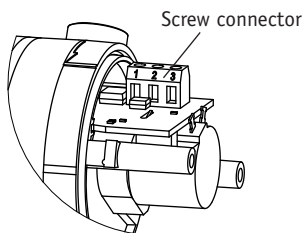

Fig. 7: Wire connection
- Connect strands to the terminal of the device (Fig. 7).